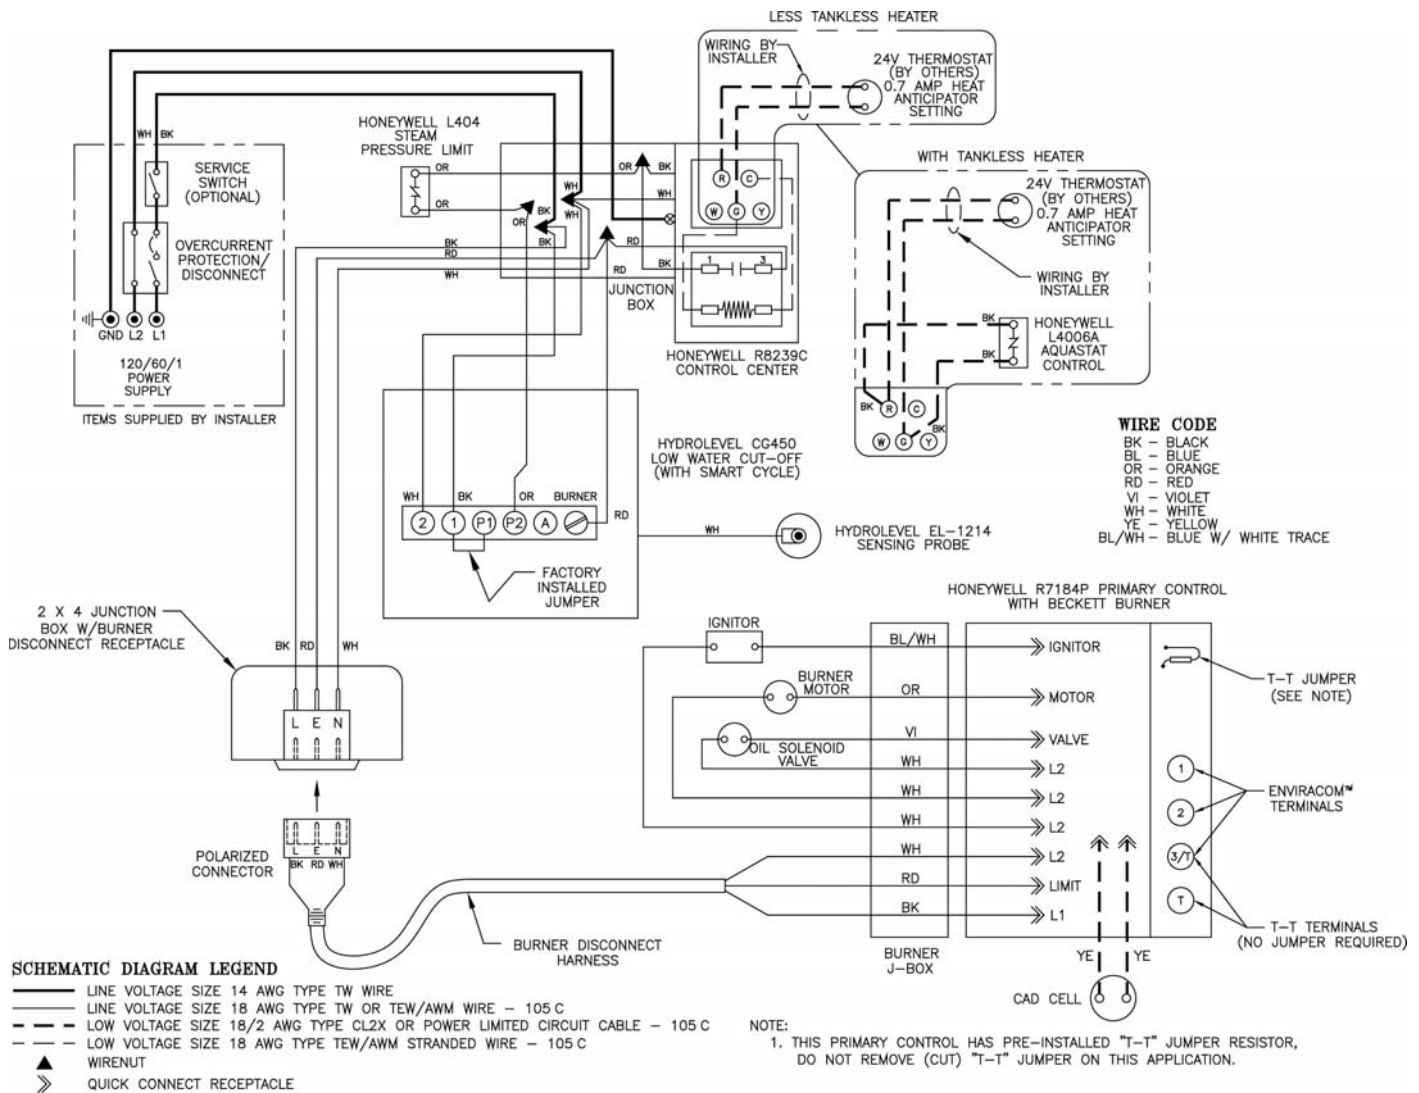

Figure 19: Wiring Diagram, Steam, Hydrolevel CG450 Probe LWCO
5. Use armored cable (BX) over all exposed line voltage wiring.
8. Wiring should conform to Figures 19 through 23B.
- Heat Anticipator in Thermostat should be set to match the requirements of the control to which it is connected. See Figures 19 thru 23B for desired system and heat anticipator setting. If system tends to overheat above the thermostat's temperature setting, reduce heat anticipator setting by .1 or .2 amps. If system tends to short cycle without reaching desired room temperature, increase heat anticipator setting by .1 or .2 amps.